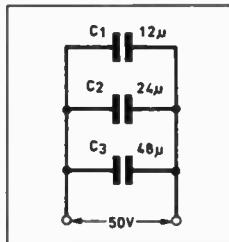

Fig. 5.5. Finding the charges.
6. Three capacitors of 12μF, 24μF and 48μF are wired in parallel across a 50V supply. Calculate the equivalent capacitance and the charge on each capacitor. Fig. 5.5 illustrates.